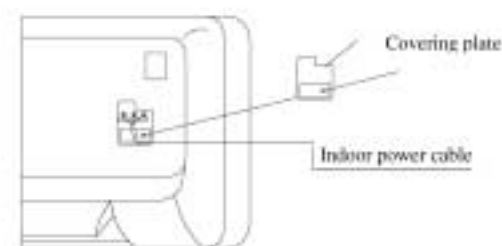

Fig.3
2. Disassembly the set screw on the connect panel, refer to fig.3;